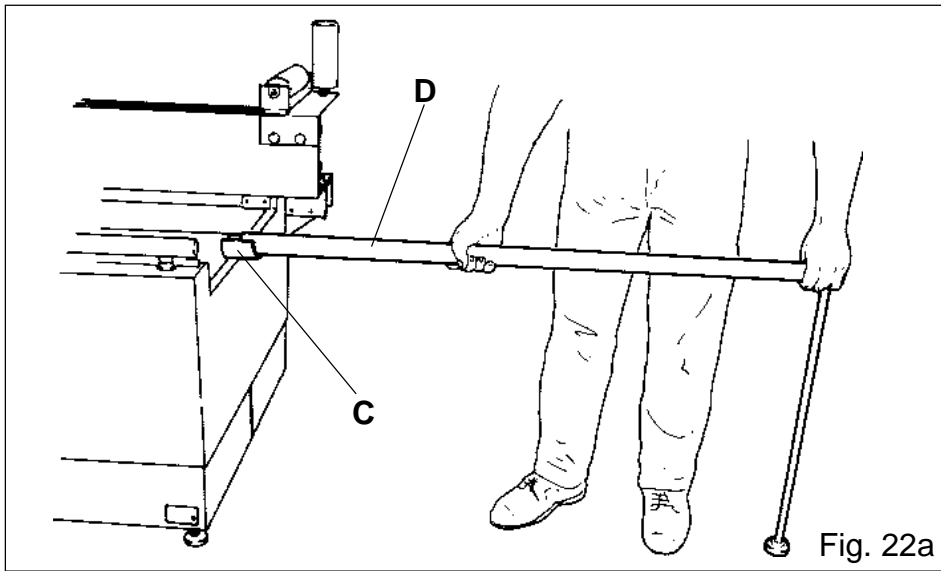

Fig. 22a
- 2° - Fix the connection C (fig.22a) to the extension guide D (fig.22a) blocking the screws with the spanner.